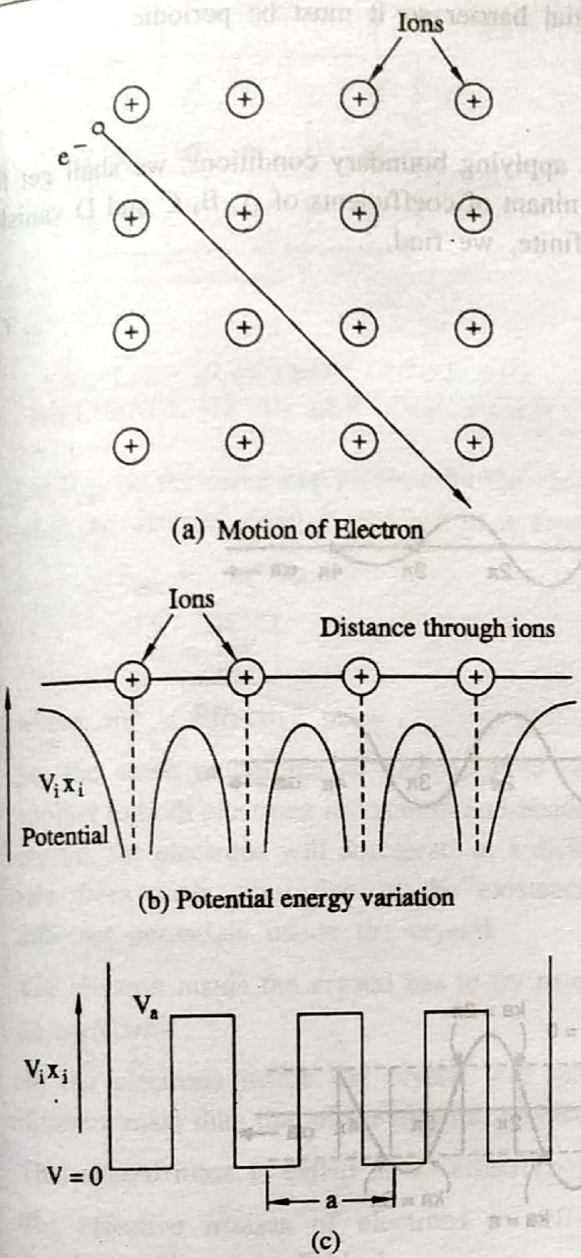

FIG. 1.18 : ONE DIMENSIONAL PERIODIC POTENTIAL
- Free electron theory fails to explain many other physical properties, for example : (1) it fails to explain the difference between conductors, insulators and semiconductors, (2) positive Hall coefficient of metals.
- Consider the one dimensional periodic arrangement of positively charged ions inside a crystal as shown in Fig. 1.18.
- The motion of the free electrons inside the positively charged ion core is shown in Fig. 1.18(a).
On the other hand, outside the crystal, the potential energy is infinite. Therefore, the potential energy of the moving electrons varies periodically with same period as that of crystal as shown in Fig. 1.18(b).
It is not easy to solve Schrodinger's equation with these potentials. So, Kronig and Penney approximated these potentials inside the crystal to the shape of rectangular steps and shown in Fig. 1.18(c).